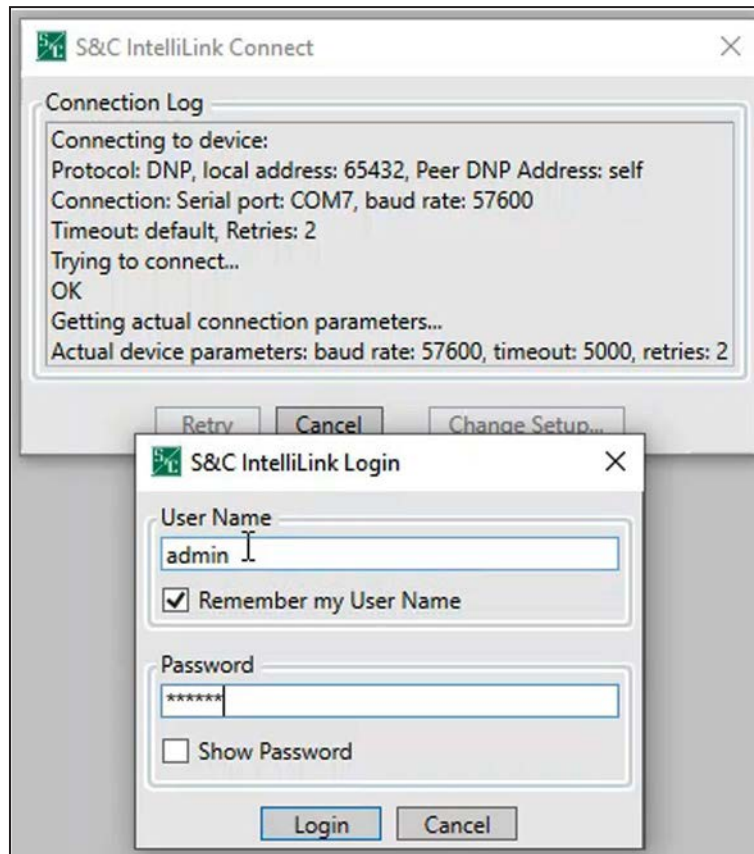

Figure 126. The IntelliLink Login dialog box.
STEP 4. When prompted, enter “admin” for the username and enter the Admin password in the **Password** field. See Figure 126.